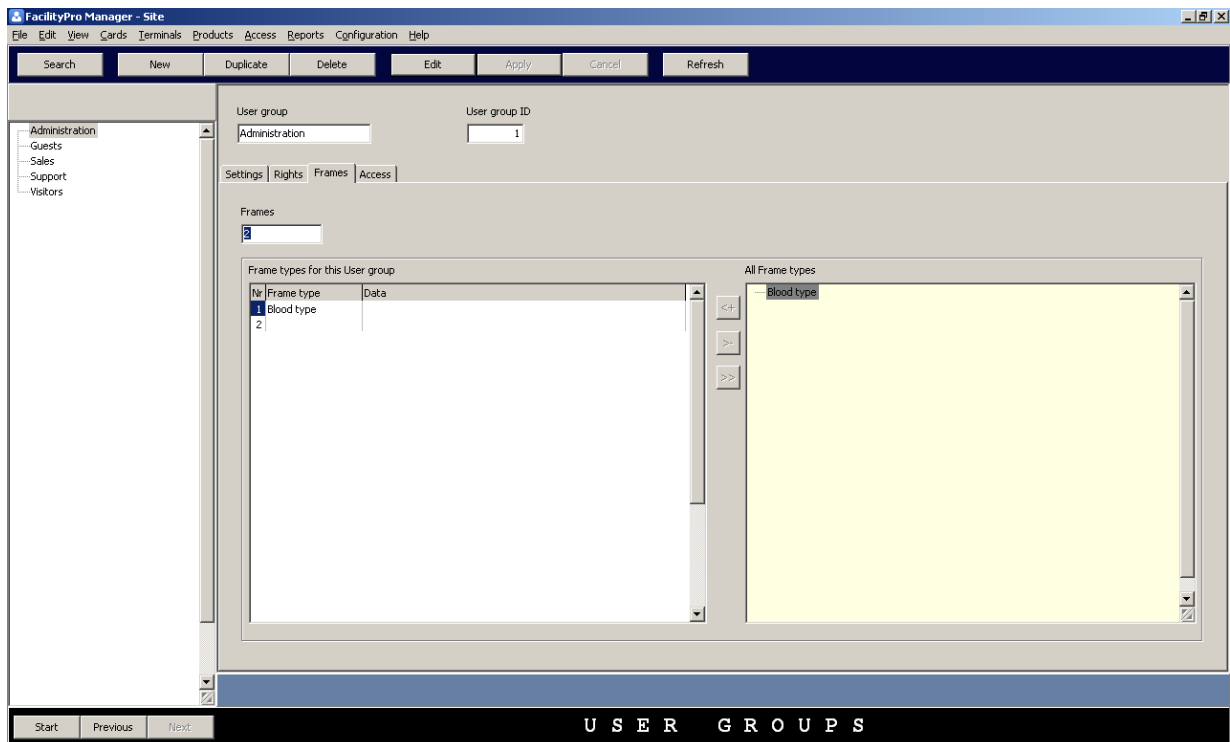

Figure 3-44 The tab 'Frames' of the user groups data screen
5. Click the tab 'Frames'. You will see the tab 'Frames' (Figure 3-44). At the bottom of the screen you will see, in the field 'Frames', the number of frames on the cards of this user group. On the right you will see a list of all frame types known to FacilityPro Manager. On the left you will see a numbered list (which might be empty) of frame types previously assigned to this user group. This list will have one position for each frame on the cards, the number in the list corresponding to the number of the frame on the card.